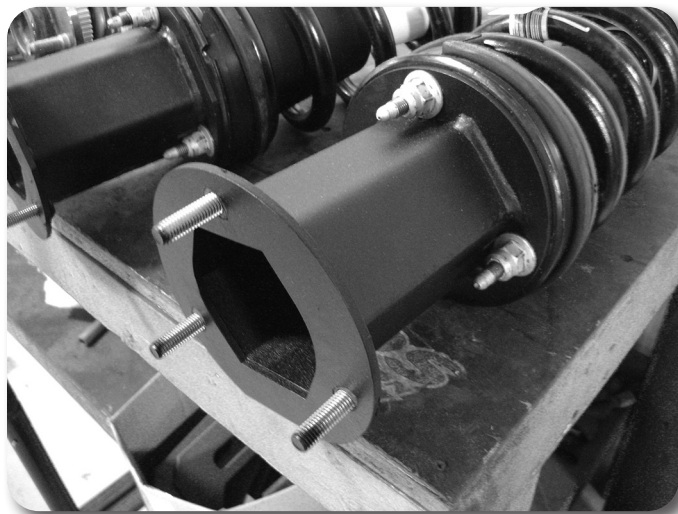

Figure 30
53. Install the provided strut spacers on the struts with provided nuts and washers. The spacers will only install one way. Torque the hardware to 30 ft-lbs. **Figure 30**